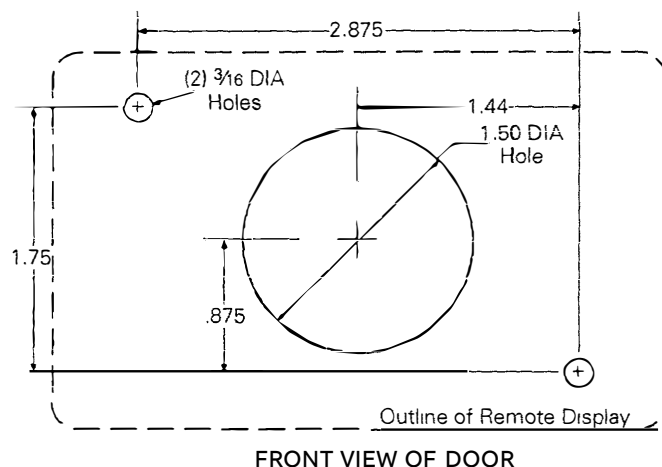

Figure 5. Remote Display mounting-hole pattern.
- Drill and knock out a 1 1/2-inch-diameter hole for the Harness connector in the center of the mounting location. Drill two 3/16-inch diameter holes for the Remote Display mounting studs, as illustrated in Figure 5. The compartment door may have to be removed first.